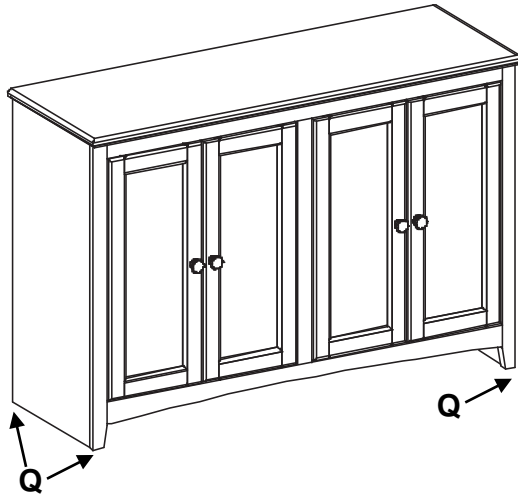

Fig. 1
1. Place the cabinet at its final destination. Rotate the Small Adjustable Glides (Q) on the bottoms of the legs until the unit is level. See Figure 1.